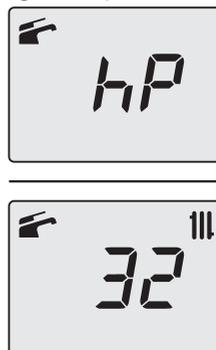

Fig. 10.25
- By pressing 15 (Fig. 10.21) it is possible to change power in flue sweep mode: with the letters **hP** on the LCD display which alternate between the heated water temperature (i.e. **32**), we are in the “flue sweep function” at the minimum power during heating (Fig. 10.25).